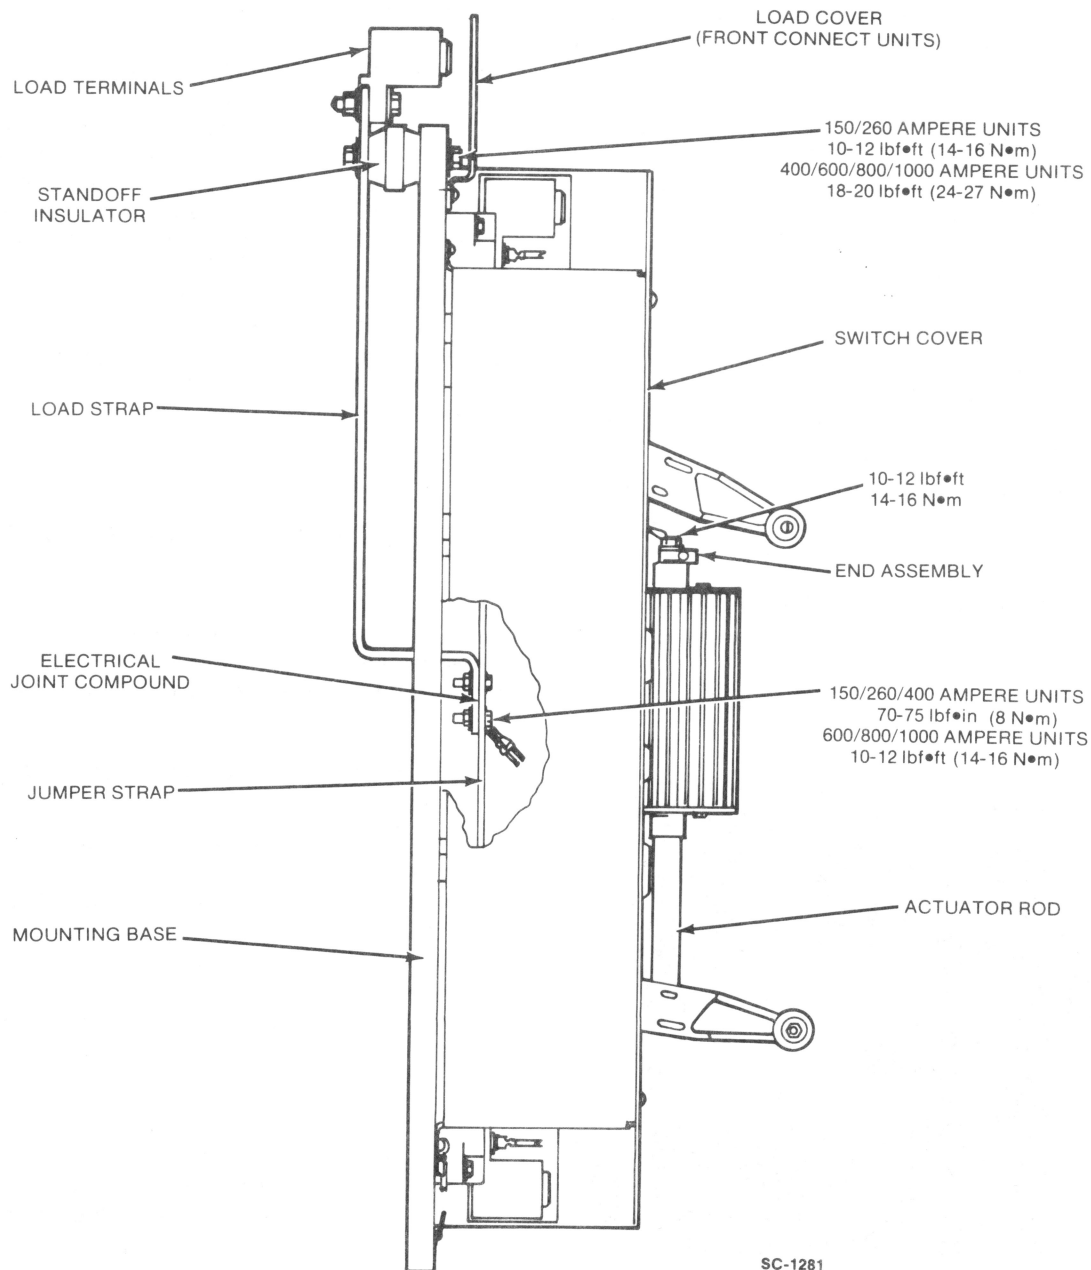

FIGURE 6. TRANSFER SWITCH LOAD TERMINALS (SIDE VIEW)
- Remove switch covers, and load cover on front connect units. See Figure 6. On units in the 600 and 1000 ampere range, the end assemblies on each end of the actuator rod must be removed to facilitate removal of the switch cover.
- Remove nuts and lockwashers from jumper strap at center of switch (leave bolts in place). See Figure 6.
- Torque screws and nuts to values shown in Figure 6.